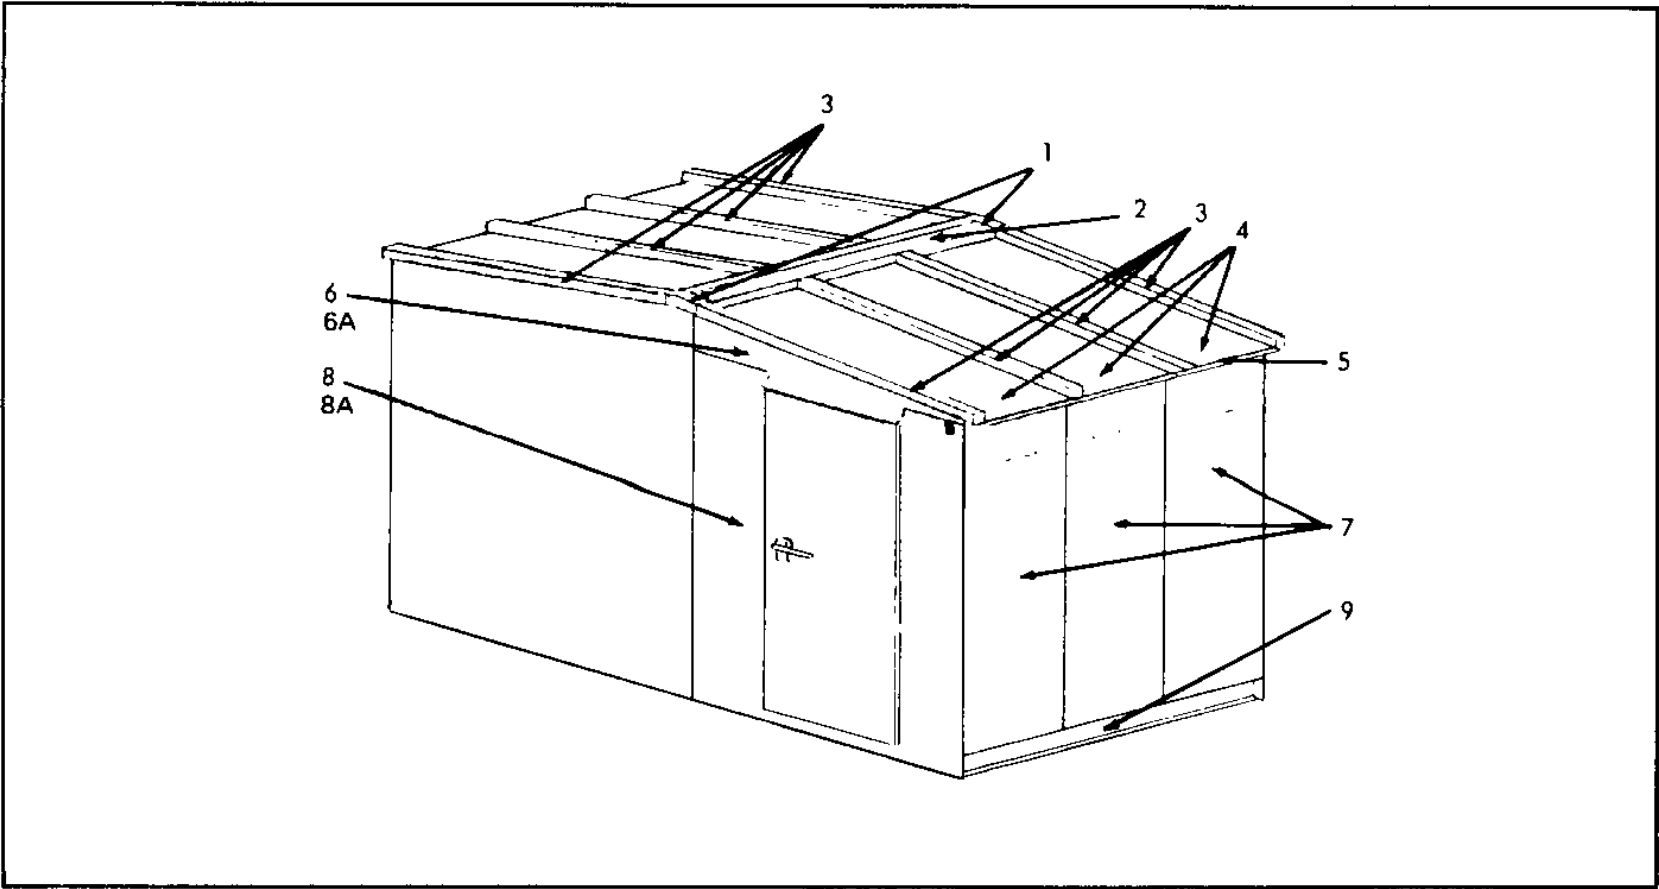
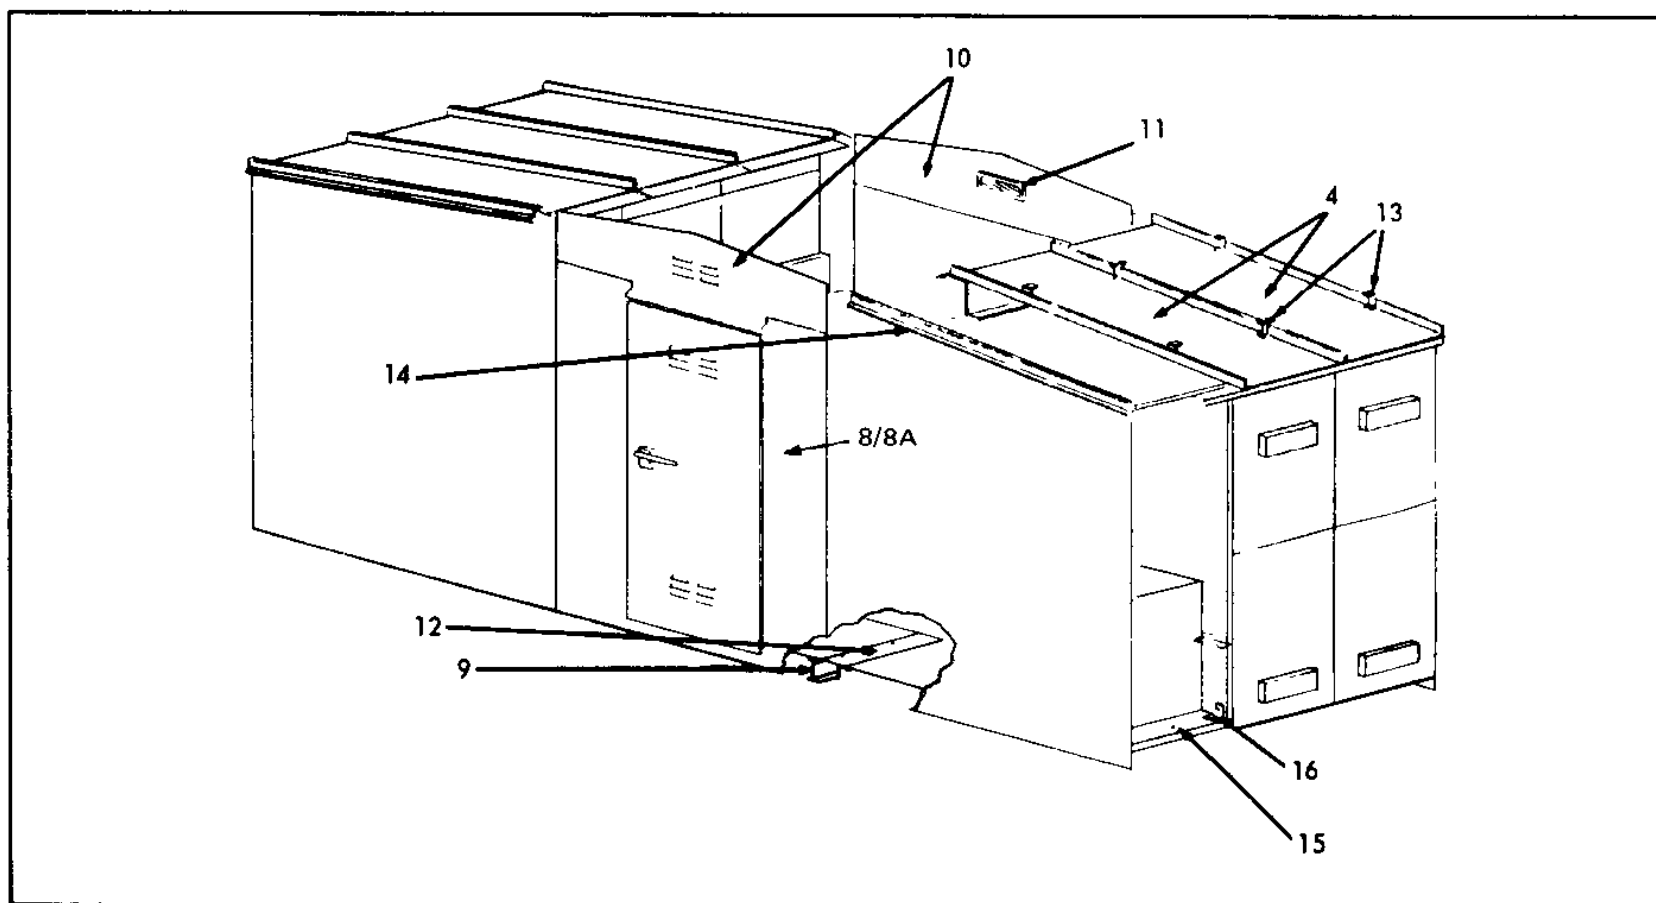
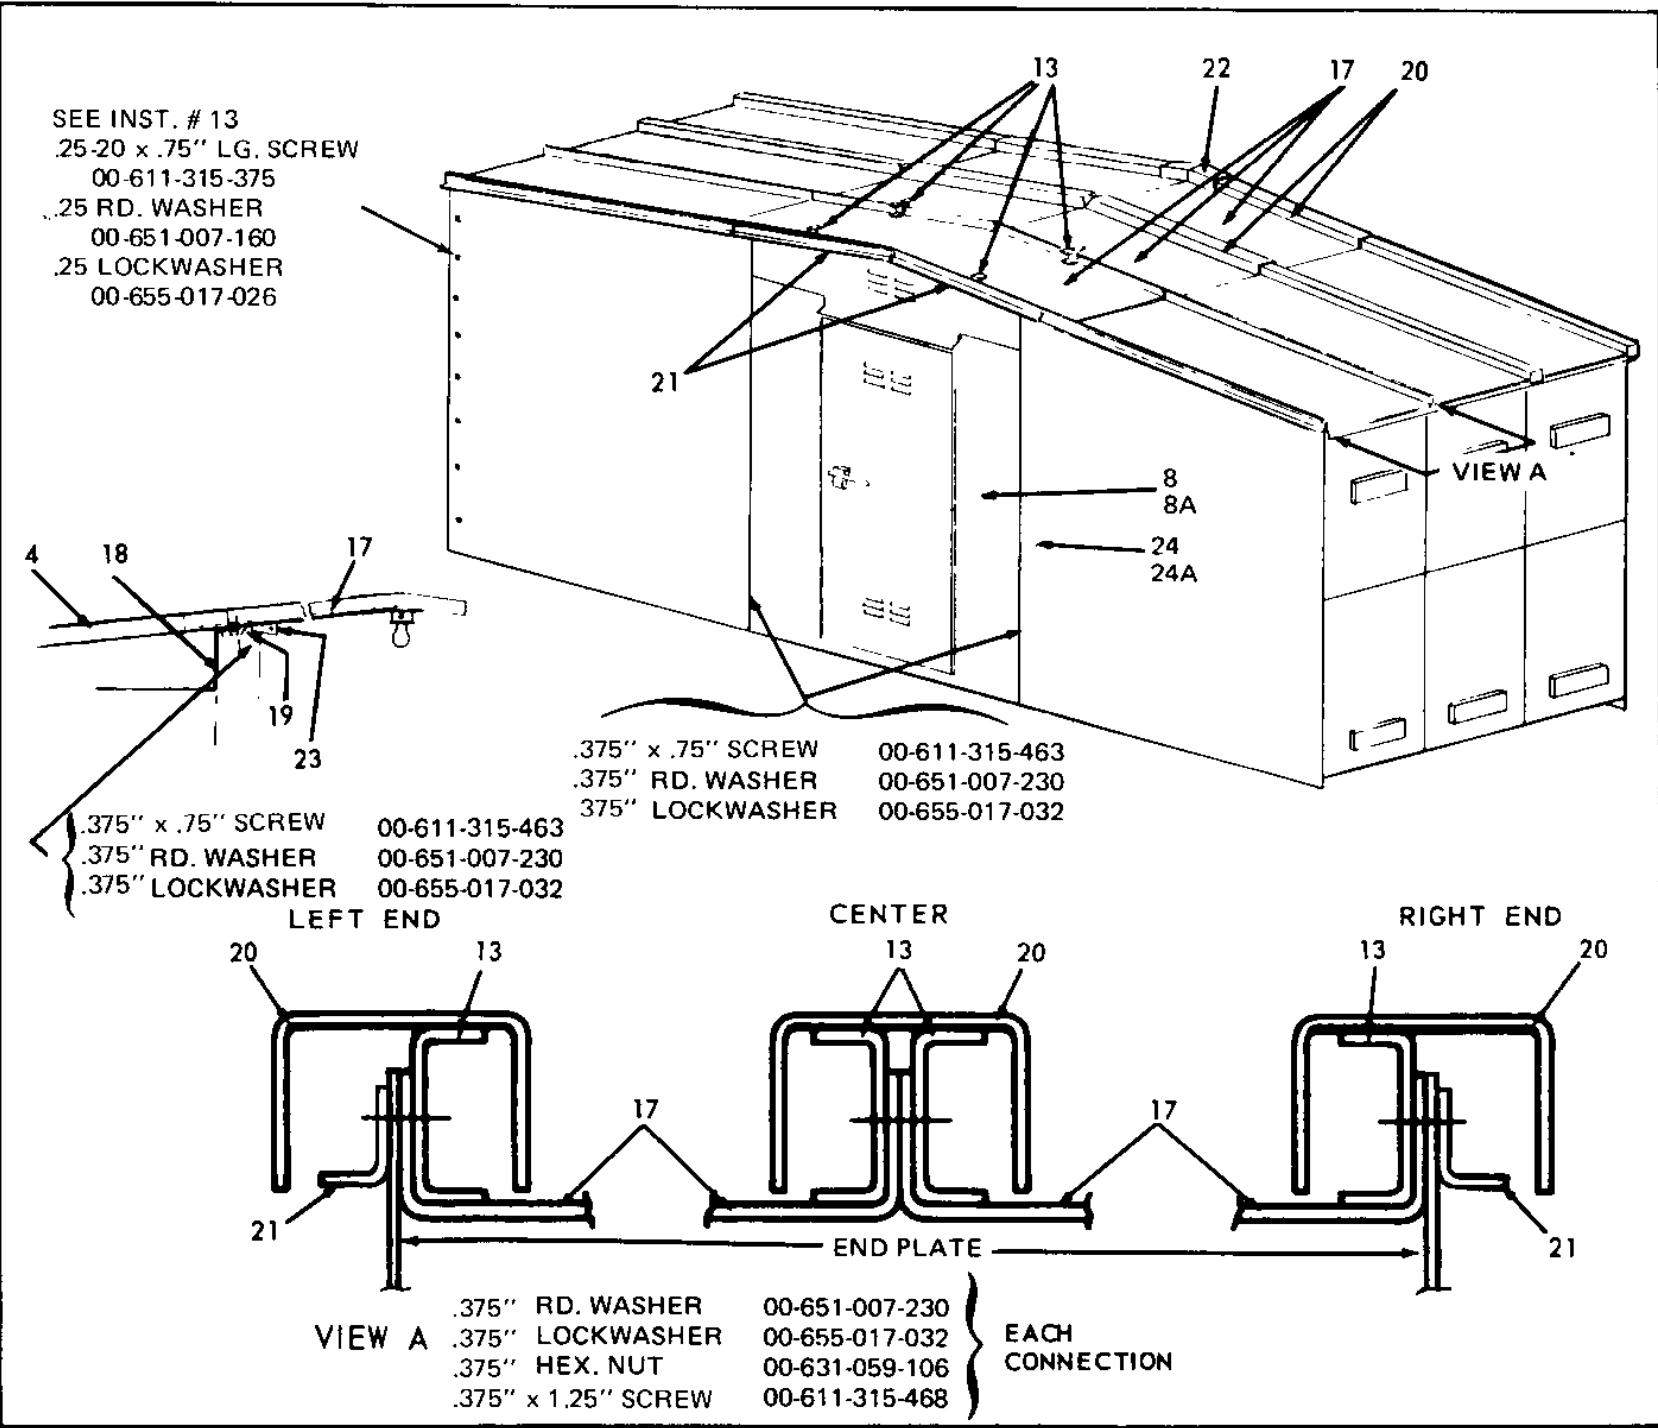

Figure 44. Removing Components from Existing Switchgear
Figure 45. Installing New Equipment
Figure 46. Roof Installation
- 1. See Figure 44. From the existing switchgear remove the gable ends (1), and roof gable (2). Discard these parts.
- 2. Remove the roof channels (3), roof covers over aisle (4), formed cover (5) and all associated hardware. On 5 KV switchgear save all these pieces. On 15 KV switchgear save only the cover (5) and associated hardware.
- 4. Remove front plates (7) by unbolting from door frames (8 and 8A) and from I-Beam (9). Discard plates (7) but retain filter (11).
- 5. Move new switchgear into position as shown on the general arrangement floor plan. See Figure 45.
- 7. Install new plates (10). Mount filter (11) salvaged from front plate (7).
8. Install adaptor floor plates (12) between the new units and the I-beam (9).
9. Mount roof covers (4) on the new units, bolting together using special channel brackets (13) similar to the aisle construction just disassembled.
10. Add trim angle (14) at each end of the group. (On 15 KV equipment items 4, 13 and 14 are shipped assembled).
11. When installing conduit, drill plate (15) to suit. Clamp plate with angle (16).
12. See Figure 46. Place aisle roof decks (17) in position. Bolt them to the roof support (18) using bevel washers (19). See inset.
13. Bolt roof decks (17) together with brackets (13). See view "A". Leave hardware finger tight until Step 15 is complete.
14. Set channel-shaped covers (20) over the joints of roof decks and slide up the covers so the clips on the inner surface (See Figure 46) engage the brackets (13).
15. Add trim angle (21) to each end of the aisle. Tighten bolts.
16. Bolt hoods (22) over the roof channels.
17. Add four covers (23) to seal crack between top of door frame (8) and end plate (24 and 24A) joint. Mount light as shown.
1. Remove end gable assembly (1, Figure 44) from single aisle equipment. Remove the end hood (22, Figure 46) if switchgear has a common aisle.
2. Remove the channel-shaped covers (20) over roof joints from both aisle and switchgear unit. Do this by removing hardware from peak end of the
13. Mount unit side plate and using side plate as template drill #7 (.201") dia. holes in back frame angle of new cubicle. Using .25-20 tap cut threads in these holes. Add and secure hardware (see Figure 46). The addition of these holes may be omitted if existing cubicle had vertical corner trim angle in which case side plate would not have these extra holes.